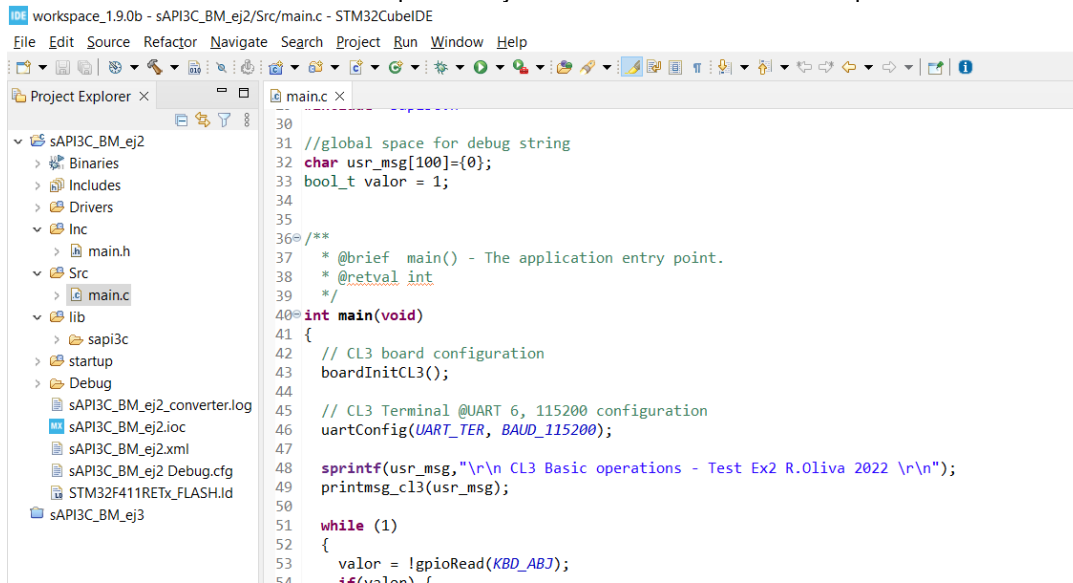

Figure 11 – CL3 Example 2 Structure in STM32CubeIDE
3.a Example 2 (sAPI3C_BM_ej2) : This simple program simply blinks the OLED general purpose on-board LED. Open the sAPI3C_BM_ej2 example as in Figure 10 and expand the directory structure as shown in Figure 11. The upper-layer user defined programs are in the src/ and /inc directories. The sapi3c library is under /lib and the controller specific files and startup code.